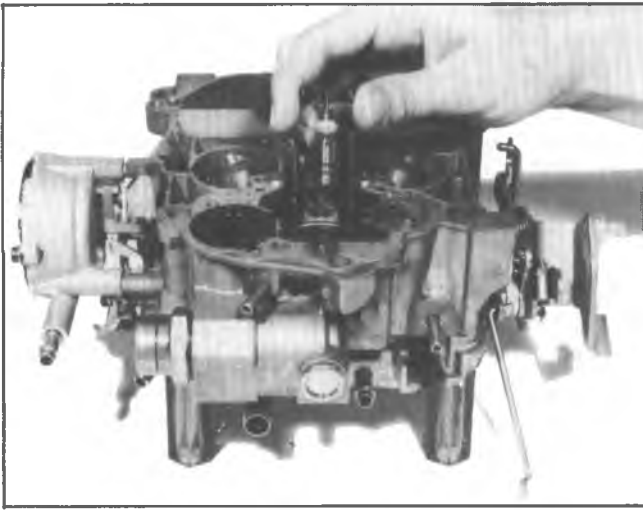

Fig. 9MQ—Removing Power Piston and Metering Rods
4. Remove power piston and metering rods by depressing piston stem and allowing it to snap free (Fig. 9MQ).